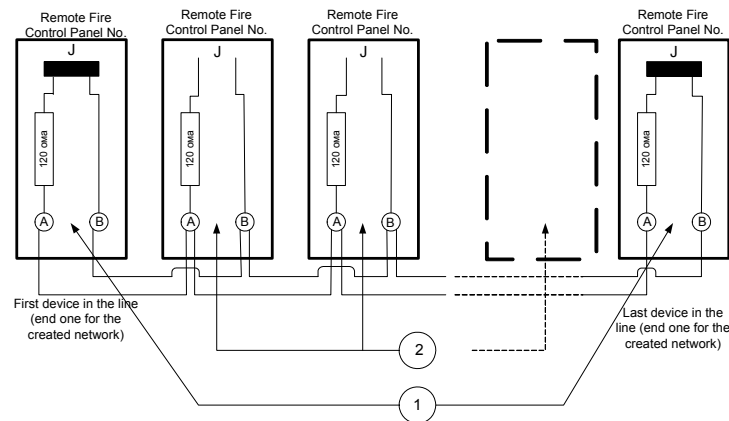

Fig.3
- If the fire control panel, connected to the local network, is an end one then set the line terminating jumper pos.1 (Fig.3) to position  (On);
- If the fire control panel, connected to the local network, is not an end one then set the jumper pos. 2 (Fig.3) to position  (Off).